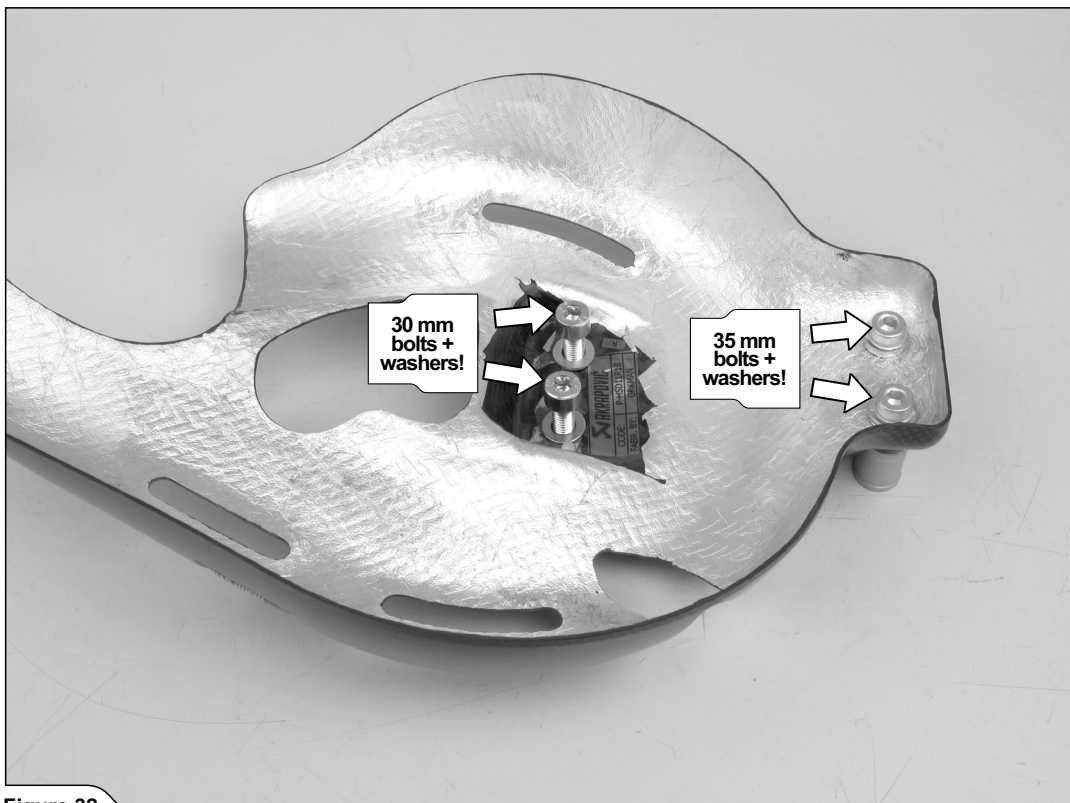

Figure 32
6. For use without passengers foot rests only: install the heat shield onto the sub-frame using spacers, bolts and washers from Akrapovič installation kit (Figure 32, 33, 34).